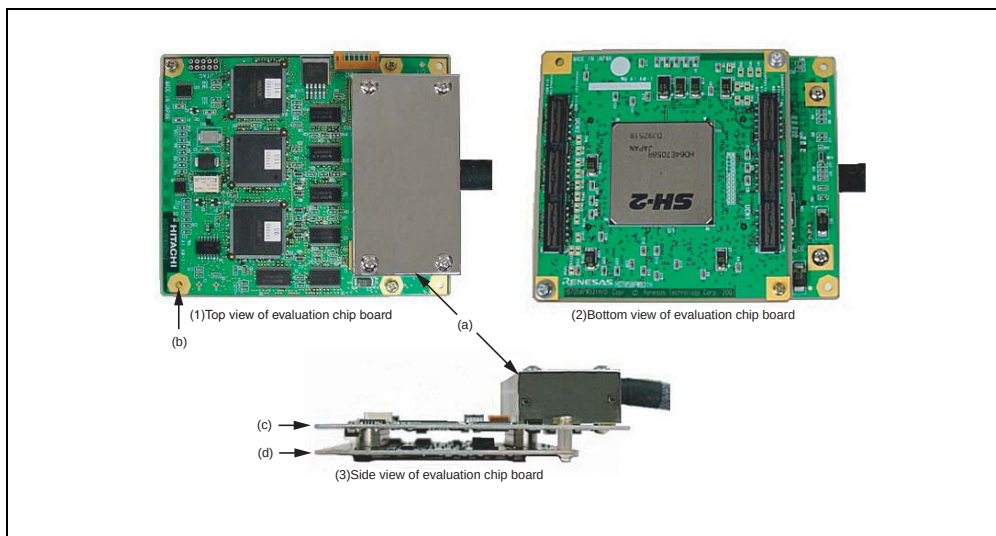

Figure 1.4 Evaluation Chip Board
- (c) HS7058PWB20H board or HS7059PWB20H board: The board has a connector for the trace cable (figure1.4 shows the HS7058PWB20H board).
- (d) HS7058PWB31H board or HS7059PWB31H board: An evaluation chip is installed on the board, which has a dedicated connector for the user system interface board or user system (figure1.4 shows the HS7058PWB31H board).